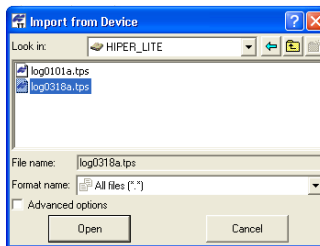

Figure 3-37. Select the Raw Data File to Import
5. To import the file(s) from the receiver to the current job, highlight the file(s), set the corresponding file format in the *Format name* field and click **Open** (Figure 3-37).